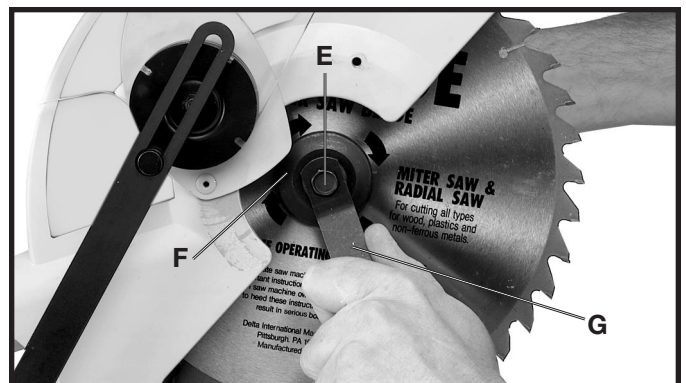

Fig. 45
3. Use a wrench (G) Fig. 45 to loosen arbor screw (E) by turning it clockwise.
4. Remove arbor screw (E) Fig. 45, outside blade flange (F), and saw blade from saw arbor.
5. Attach new saw blade **MAKING CERTAIN TEETH OF SAW BLADE ARE POINTING DOWN AT THE FRONT.** Re-attach outside blade flange (F) Fig. 45, and arbor screw (E) by turning it counterclockwise using wrench (G) Fig. 45. At the same time, use hex wrench (C) Fig. 44 to keep the arbor from turning.
**⚠ WARNING** REMOVE WRENCHES (C) FIG. 44 AND (G) FIG. 45 BEFORE STARTING MACHINE.